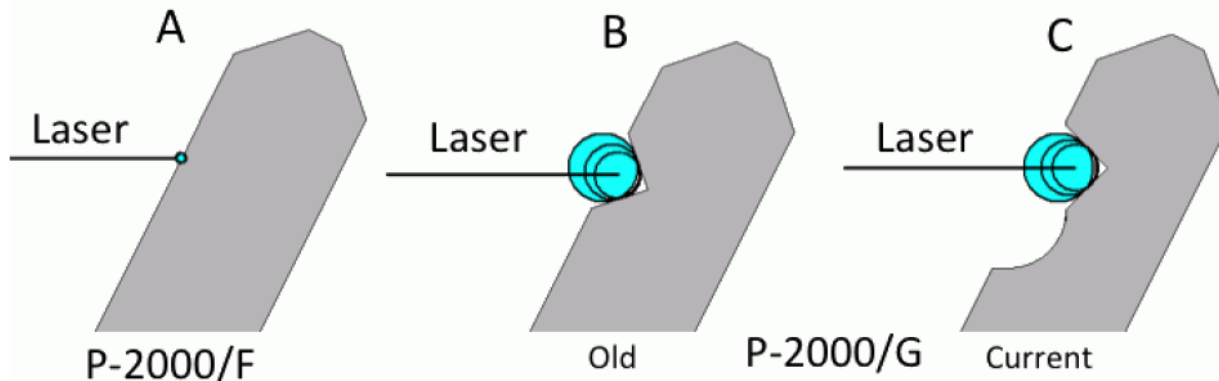

Figure 1-3. Puller Bar styles.
| Figure 1-3. Puller Bar styles.....                                    | 4 |
See Figure 1-3 for the three different styles of puller bars found on P-2000/G and P-2000/F Pullers. The “old-style” puller bars for model P-2000/G (Figure 1-3B) were discontinued in 2006. All current models ship with the new-style puller bars (C), which ensure that the laser is directed towards the center of the glass capillary irrespectively of its diameter. A glass loading aid is available should you have persistent problems clamping the glass capillary with new-style puller bars (Figure 1-3C).